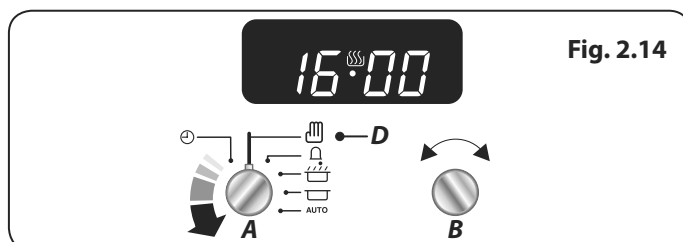

Fig. 2.14
To cancel any automatic settings turn the **Timer (A)** knob to the **Manual (D)** setting and release (**Fig. 2.14**).